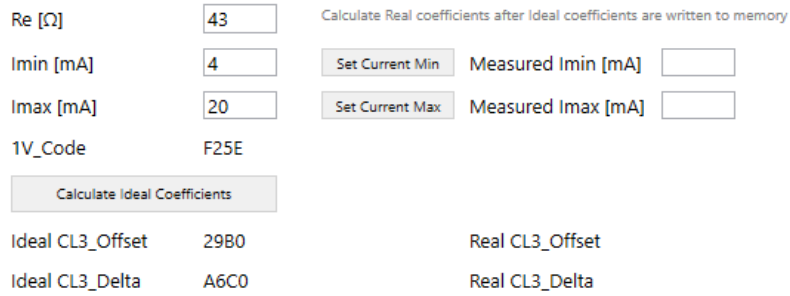

Figure 86. 3-Wire Current Loop Calibration
2. Click the “Calculate Ideal Coefficients” button (see Figure 86).